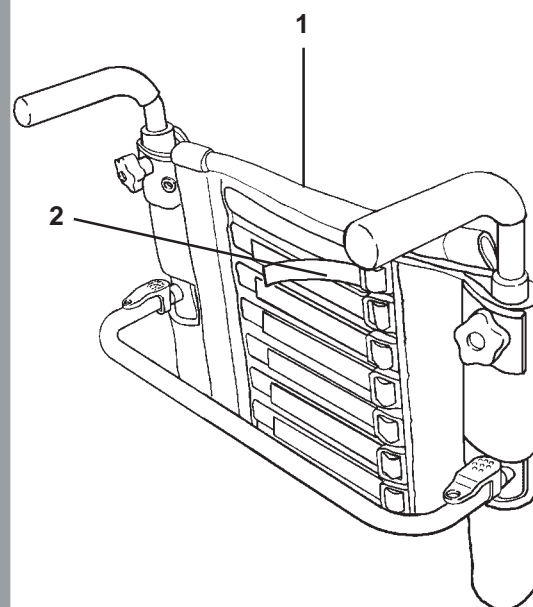

Fig. 32
To adjust the upholstery (Fig. 32) first lift up the back flap (1) covering the strips, with the user sitting in the chair, proceed to loosen or tighten each individual strap (2). It is necessary to follow the profile of the users back (In practice this will generally mean tightening the straps around the lumbar region, and loosening the straps around the posterior and upper back). These adjustments should only be performed by a qualified therapist.